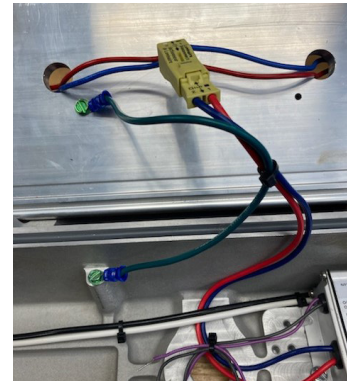

Figure 4. DLLA4 LED light engine fitting wire routing
6. Un-plug the LED light engine fitting input socket from the LED driver output plug (see Figure 4).
5. Locate and remove wire tie used to secure LED light engine input wiring (see Figure 4). Use care in removing wire tie so damage is not done to any wires
12. Route LED light engine and LED driver output wiring and install tie wrap as directed in Figure 4. Trim excess tie wrap material